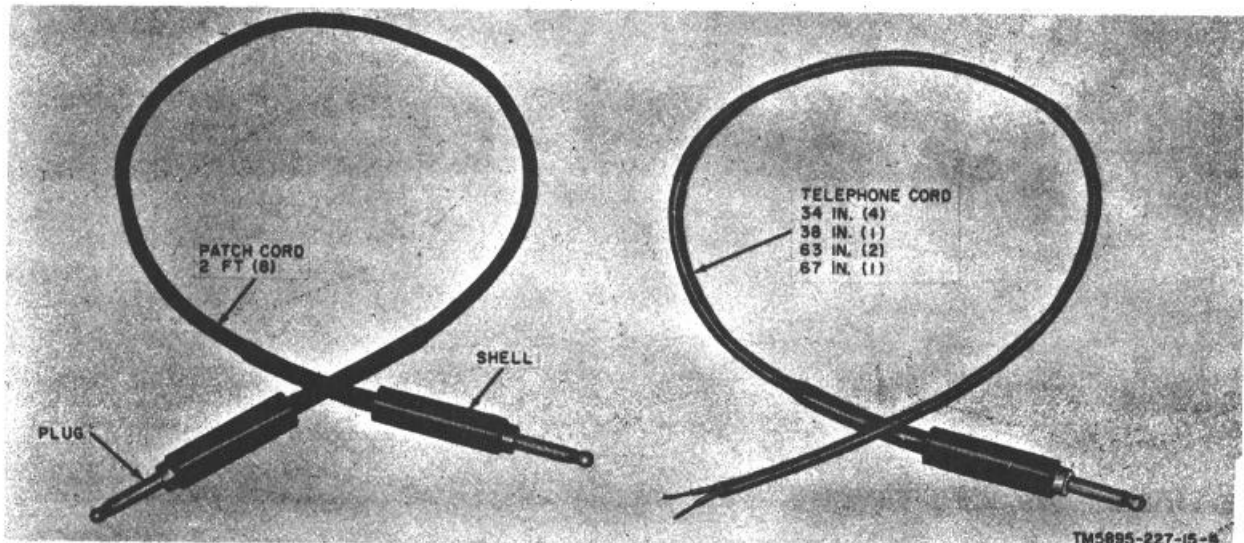

Figure 4. Operations Center, Communications AN/MSC-25, telephone and patch cords.
- (3) *Telephone cords* (fig. 4). Each telephone cord is a two-conductor cord with a telephone plug on one end and prepared leads on the other; they are used to connect the TA-312/PT's (para. 13) and the LS-147(*)/FI.
- (4) *Patch cords* (fig. 4). The patch cords are secured on a hook adjacent to the patch panel (fig. 14). They are two-conductor cords equipped with a telephone plug at each end and are used with the patch panel.